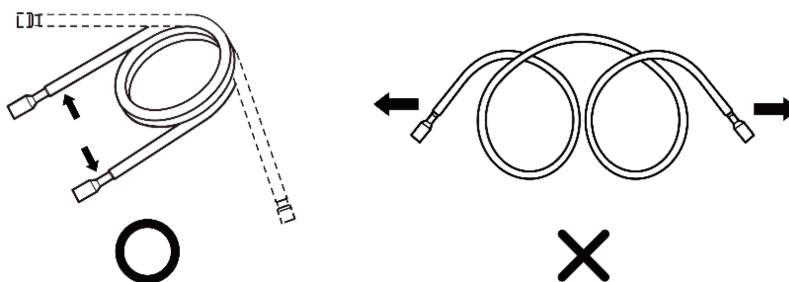

Figure 4.4a
1. The pipes should be shaped by hand. Use care not to collapse them. Refer to Figure 4.4a below.